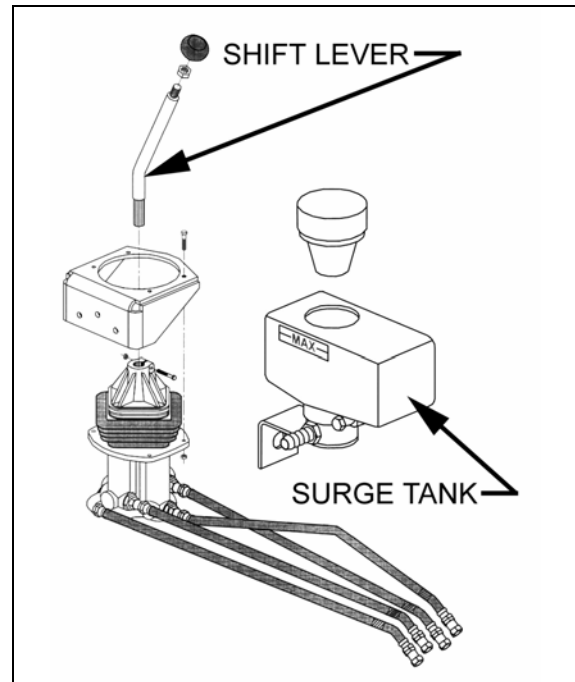

FIGURE 11: SHIFT LEVER ASSEMBLY
Note: Surge tank oil level must be visible without exceeding maximum limit. Reservoir is located behind driver's seat (refer to figure 11)
- a. Disconnect the hydraulic pipes four connectors from hydraulic shifter assembly (Fig. 11 and 12).